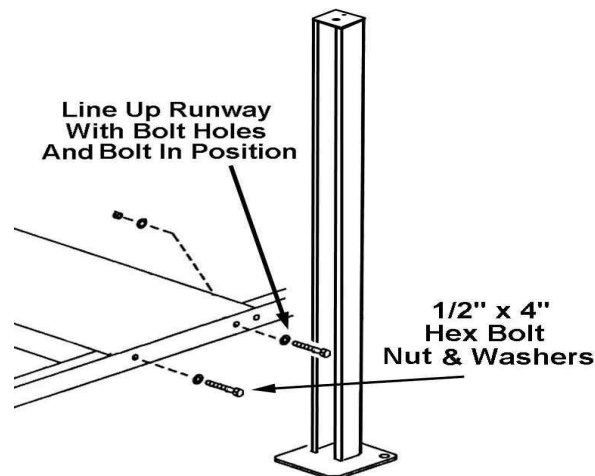

Fig. 9
3. Line up the front of the cylinder runway with the cross bar bolt holes then bolt in position using the 1/2" x 4" hex bolts, nuts and lock washers. (See Fig. 9)